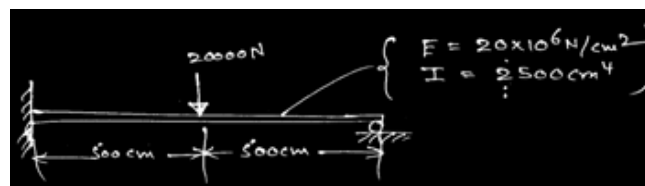

FIG: 3
- A beam fixed at one end and supported by roller at the other end has a 20 kN concentrated load applied at the centre of the span (Fig:3). Calculate the deflection under the load and construct the shear force and bending moment diagrams for the beam.